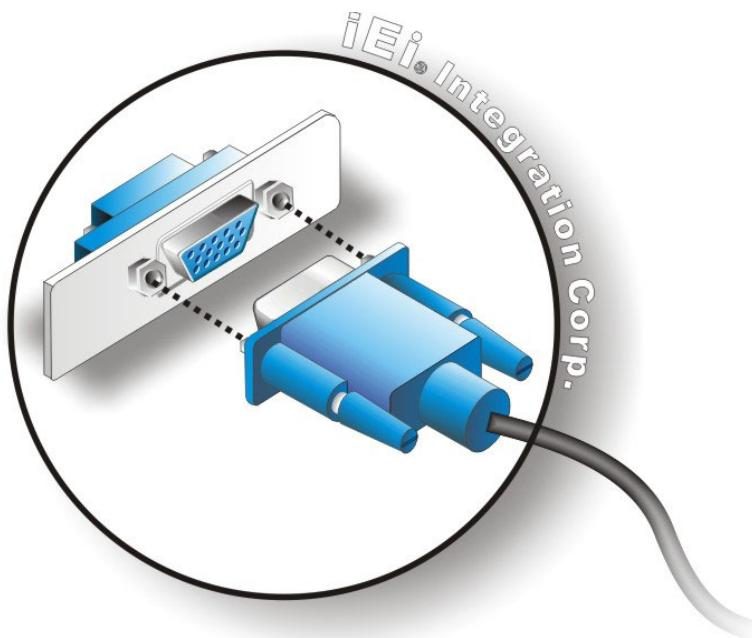

Figure 4-23: VGA Connector
Step 3: Insert the VGA connector. Once the connectors are properly aligned with the insert the male connector from the VGA screen into the female connector on the eKINO-BT. See Figure 4-23.